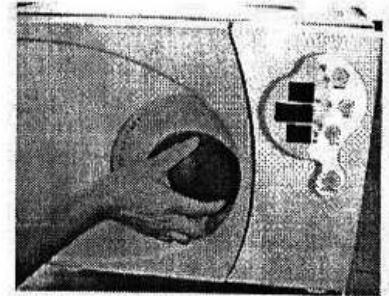

Fig 5-4
5.2.5 After the instruments are loaded, you may close and lock the chamber door by turning the door knob clockwise to its locking position. The "READY" indication light goes on. (Fig 5-4)